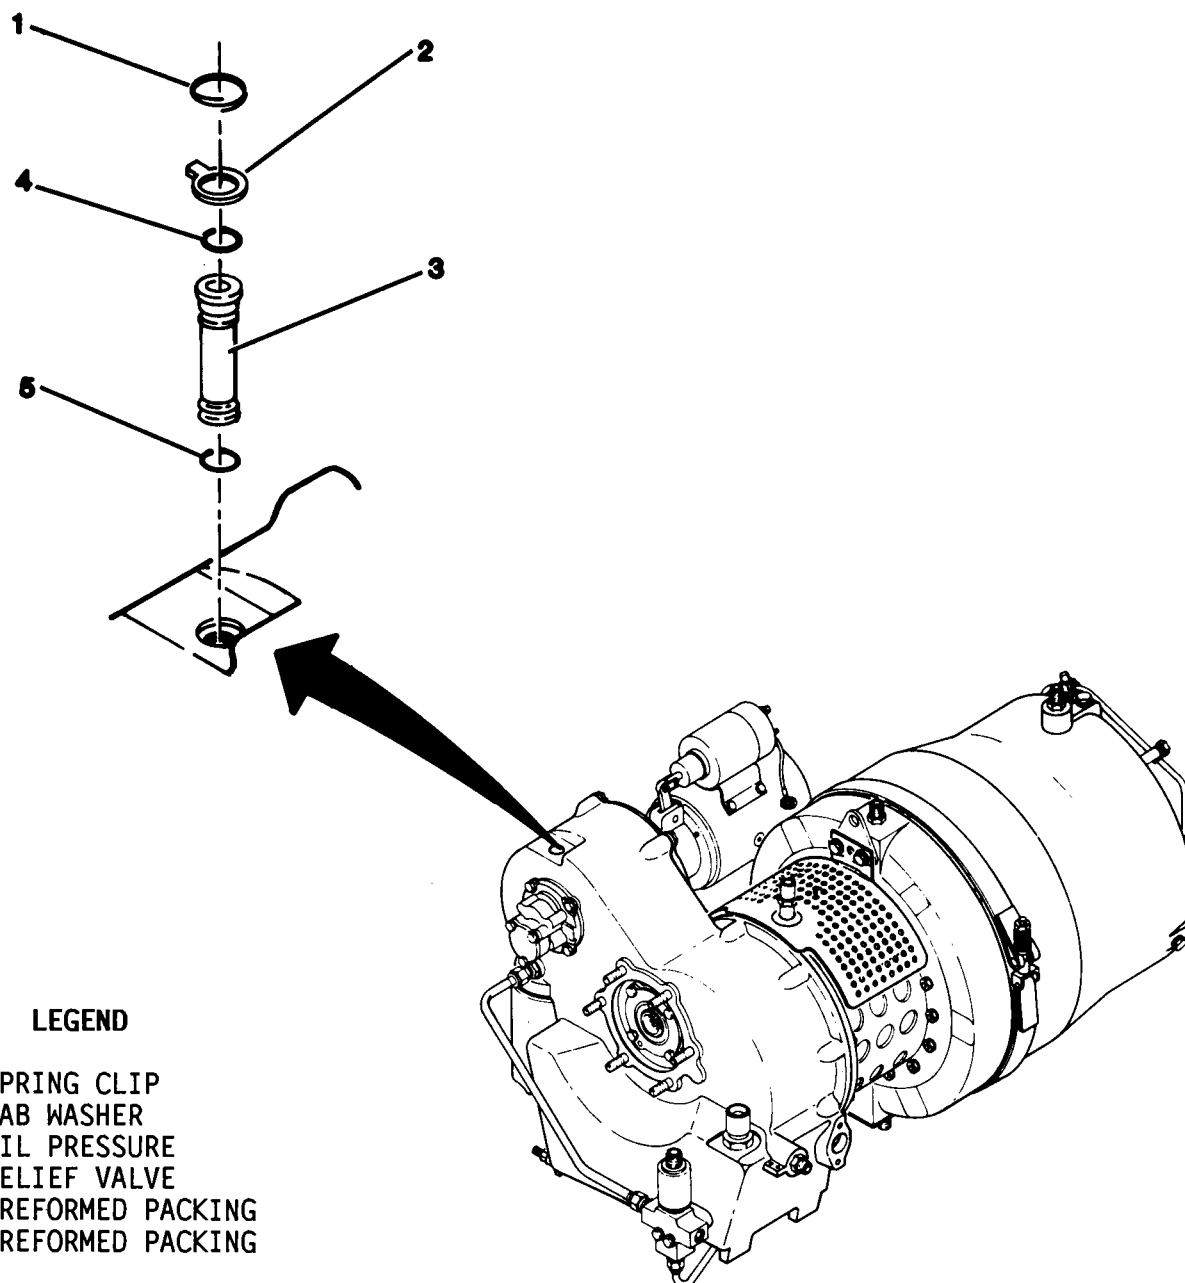

Figure 7-3. Oil Pressure Relief Valve Installation
a. Testing. Testing of the oil pressure relief valve (figure 7-3) is normally accomplished during the test cell run. Refer to the engine test cell procedures, paragraph 13-8.
(1) Loosen turnlock fasteners and remove engine housing access cover.
(2) Bend back tab on tab washer (2) and remove spring clip (1).
(3) Remove and discard tab washer (2).
(4) Screw 10-32 bolt into top of oil pressure relief valve (3). valve out of gearbox.
(5) Remove preformed packing (4) and (5) from valve. Discard preformed packing.